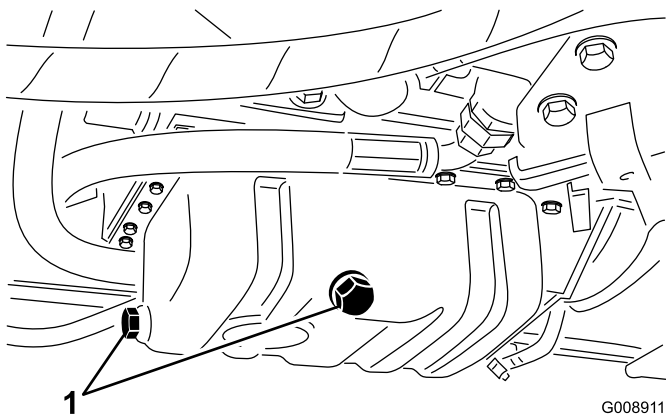

Figure 35
1. Remove the drain plug (Figure 35) and let the oil flow into a drain pan.